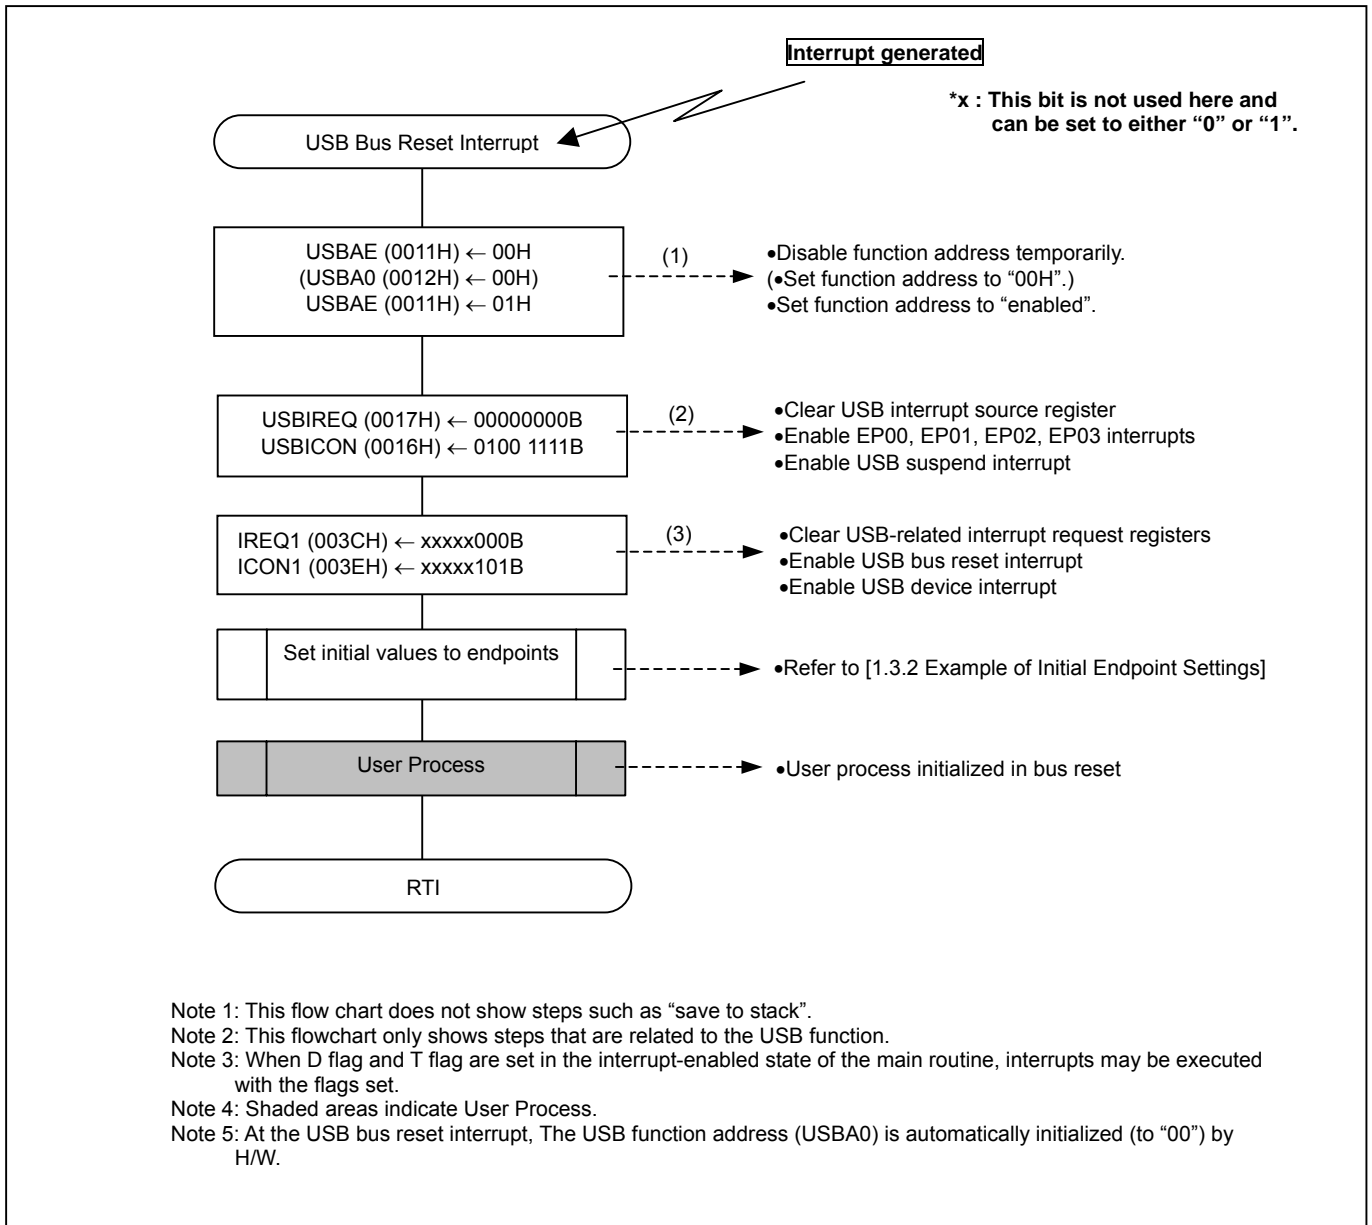

Figure 2.2 Example of USB Bus Reset Interrupt Routine
The USB bus reset interrupt is generated when SE0 continues for 2.5 μ s or more on the USB bus. Table 2.3 lists registers related to USB devices and Figure 2.2 shows an example of the USB device interrupt routine.
(5) USB bus reset interrupt routine
•Figure 2.2 shows an example of the USB bus reset interrupt routine.
The following are detailed descriptions of the steps shown in [Figure 2.2 Example of USB Bus Reset Interrupt Routine].